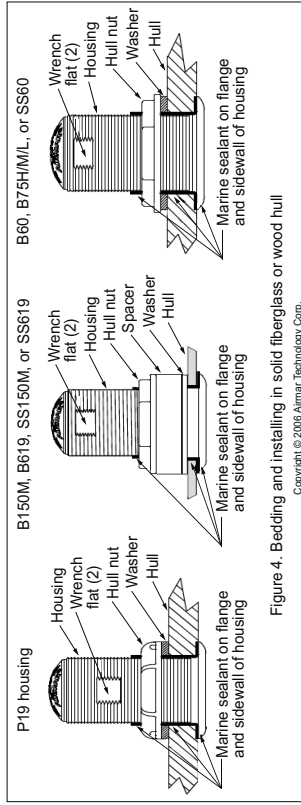

Figure 4. Bedding and installing in solid fiberglass or wood hull
Apply a 2 mm (1/16") thick layer of marine sealant around the flange of the housing that contacts the hull and up the sidewall of the housing (see Figure 4 or 5). The sealant must extend 6 mm (1/4") higher than the combined thickness of the hull, washer(s), hull nut, and any spacer. This will ensure there is marine sealant in the threads to seal the hull and to hold the hull nut securely in place.
**2. Slide the washer onto the housing** (see Figure 4 or 5). **B150M, B619, SS150M, SS619** - Also slide the spacer onto the housing and rest it against the washer. Do not use the spacer if there is insufficient space to tighten the nut or it is within 11 mm (1/2") of the top of the housing.